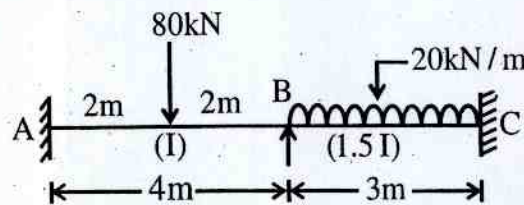

Fig.1
(b) Analyze the continuous beam loaded as shown is fig.1 by using slope deflection method. Also draw bending moment diagram- **[8]**
- Q.6 Analyse the continuous beam as shown in Fig. 1 by using slope deflection method. EI is constant.